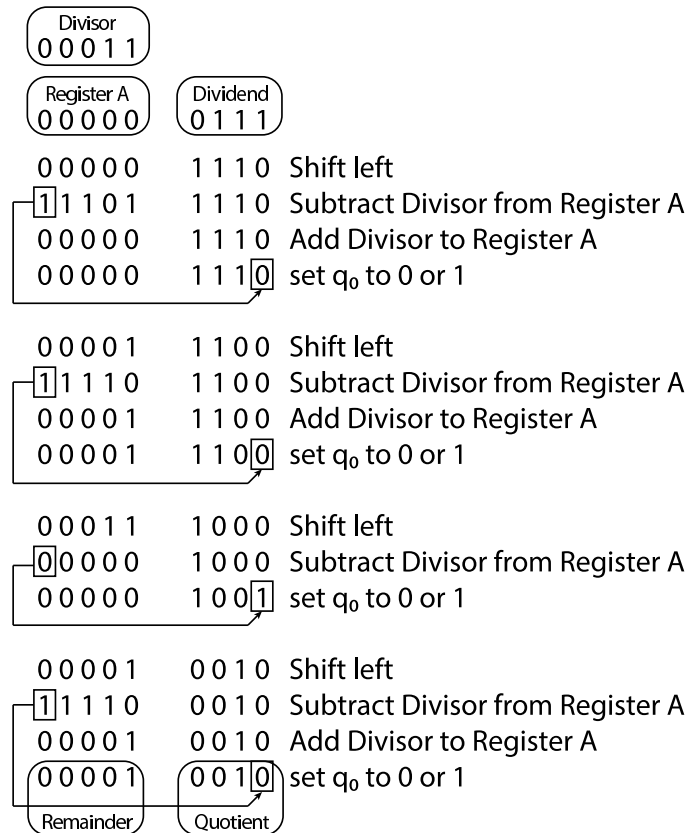
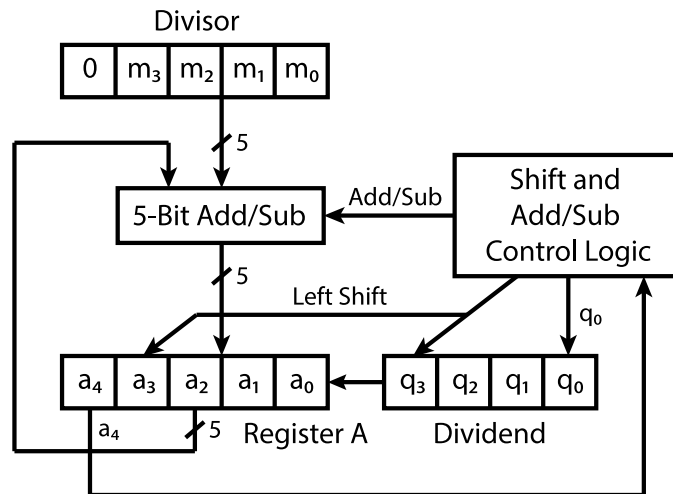

Figure 7: An example showing how the restoring divider works.
Figure 8: Block diagram of restoring divider.
Figure 7 shows an example of how the restoring divider works. This mimics what you do when you do long division by hand. The restoring divider starts with *Register A* set to 0. The *Dividend* is shifted left and the bit shifted out of the left most bit of the *Dividend* (called the most significant bit or MSB) is shifted into the least significant bit (LSB) of *Register A* as shown in Figure 8.
1. Draw a schematic for the datapath of your circuit. It will be similar to Figure 8. You should show how you will initialize the registers, where the outputs are taken, and include all the control signals that you require.